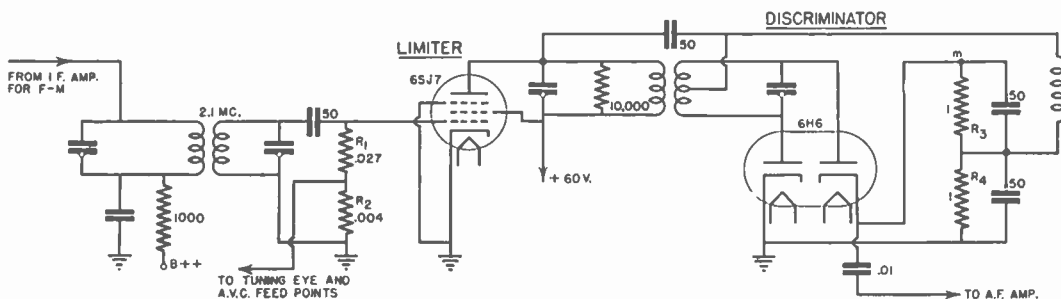
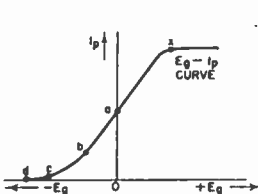
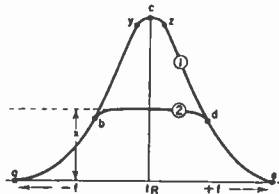

FIG. 3. Typical limiter and frequency discriminator circuit.
FIG. 4. Limiter characteristic.
FIG. 5. How the limiter flattens the r.f. response.
**Limiter.** This stage, important as its functions are, is a simple tube circuit. An ordinary pentode tube, operating at low plate and screen grid voltages (about 60 volts) and with no initial grid bias, is used. Grid current flows upon application of an r.f. signal, and this rectified current is made to flow through grid return resistors  $R_1$  and  $R_2$  as shown in Fig. 3.
point to move more negative from the no-signal point shown as *a* in Fig. 4. The operating point may assume a position such as *b*, *c* or *d* as the input level of the signal increases. The normal operating point will be somewhere between *c* and *d*, a condition for high signal input. In such a case, the r.f. signal will undergo half-wave rectification, and plate current will flow for half a cycle or less. Since the plate load of the limiter (Fig. 3) will be a resonant circuit, the voltage developed across the tank circuit will have both alternations of the cycle with the tuning circuit possessing the ability to sustain oscillation at its resonant frequency by virtue of the energy stored in this circuit.
If noise pulses make the input r.f. signal swing positive beyond point *x* in Fig. 4, the pulses will be removed by the saturation effect of this limi-
If the desired signal fully loads the limiter, causing the operating point to be more negative than point *c* (see Fig. 4), a weak signal entering the limiter will either cause no plate current variation or will reduce the plate current variation to such a low amplitude that the limiter output resonant circuit will not receive enough energy to sustain this oscillation. It is possible to design the limiter so that a desired signal which has twice the amplitude of an undesired signal, both operating at the same resting frequency, will so completely over-ride the undesired signal that the latter will not be heard.
The flow of grid current through grid resistors  $R_1$  and  $R_2$  in Fig. 3 produces a voltage across the resistors which self-biases the limiter to cut-off or beyond for normal and above-normal signal levels. This negative voltage may, in some receivers, be used to operate an electronic tuning eye,\* or to feed an a.v.c. voltage to any of the i.f.
In passing through the r.f. amplifier of the f-m receiver, the signal is varying in frequency above and below the resting frequency. If the r.f. system is sharp, as shown by curve 1 in Fig. 5, the signal amplitude will vary from *a* to *b* to *c* to *d* to *e* and back to *a* for one audio cycle. To prevent such extreme variation in amplitude, the frequency deviation would have to be limited so the swing would be from  $\mu$  to  $\pi$ , or the r.f. system would have to be made much broader by loading.
so proportioned that all signal amplitudes above *b* (amplitudes greater than *x* in Fig. 4) are in the saturation region of the limiter, then all such peaks will be removed. The r.f. amplifier and the limiter together will then have the resonant response portrayed by curve 2 in Fig. 5. The f-m signal may thus embody wide deviation in modulation.
*Frequency Discriminator.* This circuit does not differ from the circuit used in automatic frequency control, except that it is designed for the i.f. value used in f-m receivers. Such a circuit is shown at the right in Fig. 3.
Thus, while the f-m signal is varying in frequency due to modulation, the net d.c. voltage across  $R_3$  and  $R_4$  in Fig. 3 is changing in amplitude, with point  $m$  becoming alternately positive and negative with respect to ground. Condensers across  $R_3$  and  $R_4$  remove all r.f. components.